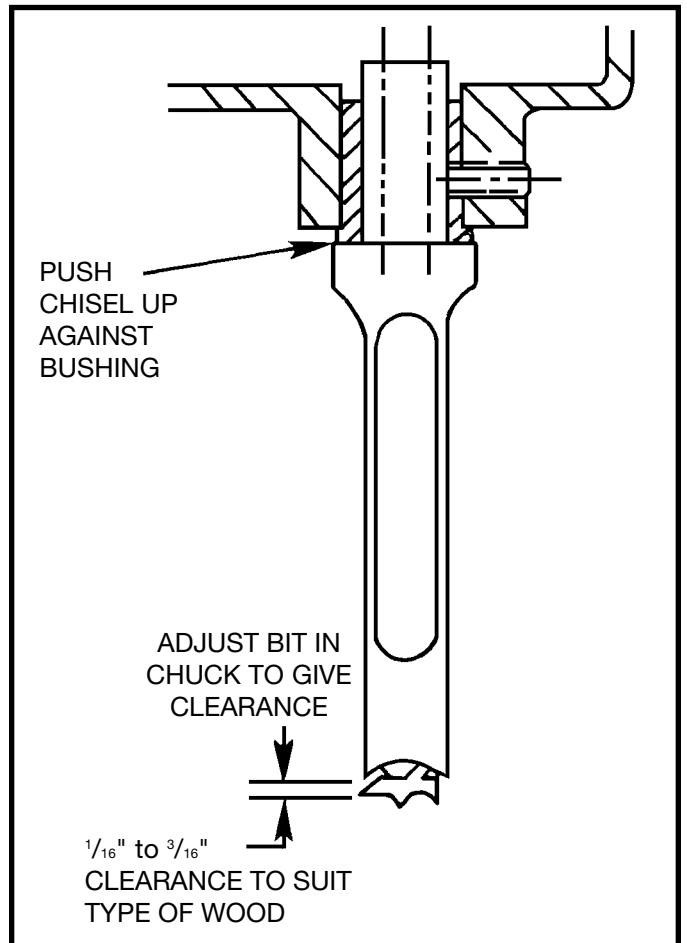

Fig. 25
6. The flat portion of the bit should be adjusted to a minimum of 1/16" below the bottom of the chisel, as shown in Fig. 25. For certain types of wood it may be necessary to increase this distance up to a maximum of 3/16" clearance. This method assures having proper clearance between the cutting edges of the bit and the points of the chisel.